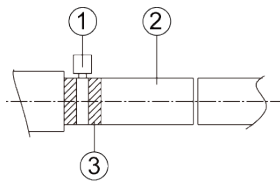
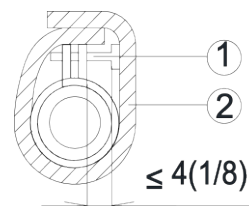

Fig 4.3.2
Fig 4.3.3
- (1) Insert the drain hose into the drain hole and secure it with tape, as shown in Fig 4.3.2.
- (2) Tighten the pipe clamp, with the distance between screw nut and hose smaller than 4mm(1/8in.).
- ① metal clamp(accessory)
- ② drain hose(accessory)
- (3) Use sealing tape to insulate the pipe clamp and hose, see Fig.4.3.3.
- ② thermal sponge(accessory)